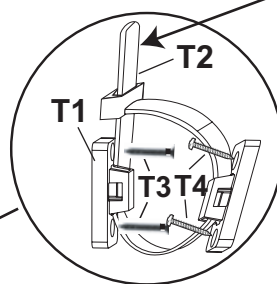

Fig. 5c
- Locate two studs in the wall behind the unit. Attach a Clip (T1) to one wall stud with two #8 x 2" Black Screws (T3). See Figure 5a. Attach a second clip to the unit with two #8 x 1" Pan Head Screws (T4). See Figure 5b. Connect the two clips with the Nylon Restraint Strap (T2). **Pull the Nylon Restraint Strap (T2) tight so there is no slack.** See Figures 5c and 5d. Repeat this procedure to attach the second tipping restraint. If you cannot locate two studs, purchase the proper wall attachment hardware for your type of wall and secure the unit.